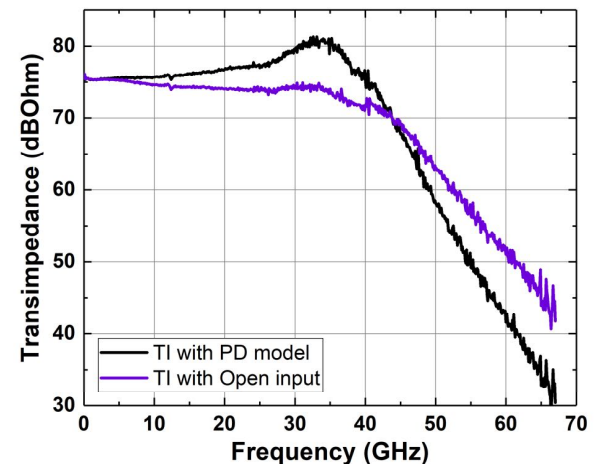

Figure 4. Measured differential transimpedance gain taking into effect the load characteristics.
* The bandwidth is stated for a 50 Ω load. The bandwidth is higher with a photo-diode, see Fig. 4.